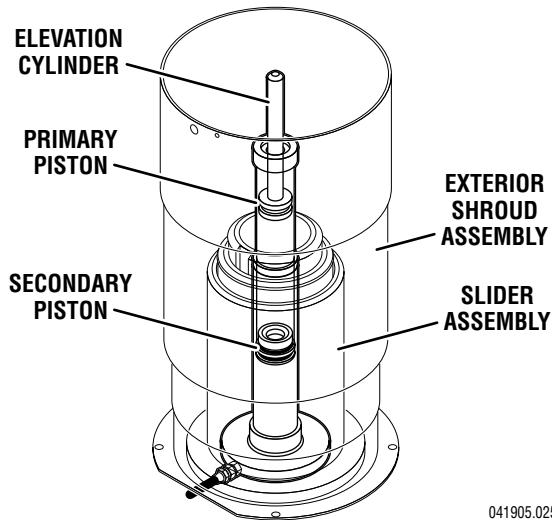

Figure 1-11. Elevation Cylinder Assembly
4. Elevation Cylinder - This single action cylinder does not have hydraulic fluid on both sides of the piston. It depends on the weight of the table top assembly to lower it. The cylinder is set in the center of the elevation main column. The two stage cylinder is elevated by the driven force of the oil pressure. When lowering, the oil that is accumulated in the cylinder is returned to the oil reservoir through the mini-valve due to the table top weight. A slider support assembly is used to support the weight of the upper table section. A stainless steel shroud covers the flexible hydraulic hoses and slider. See figure 1-11.